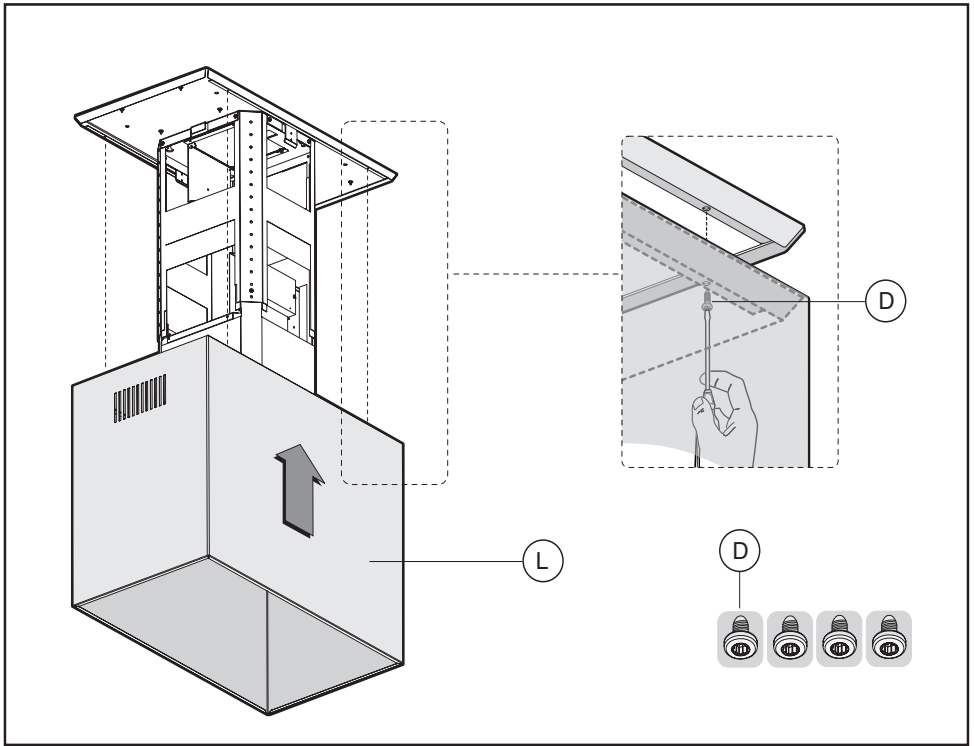

Fig.12
- Take the upper duct **L** and fit it to the duct fixing bracket **C** using the 4 screws **D** (Fig. 12).